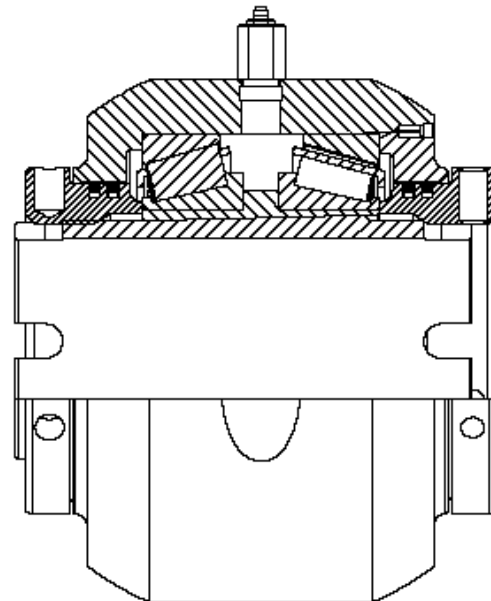

Figure 6 - Non-Expansion Type
- Non-expansion Bearing (Figure 6):** Loosen cap bolts in outer housing so unit is free to align in outer housing. Tighten hold-down bolts. Retighten cap bolts on both expansion and non-expansion bearing. See Table 1 for tightening torques.